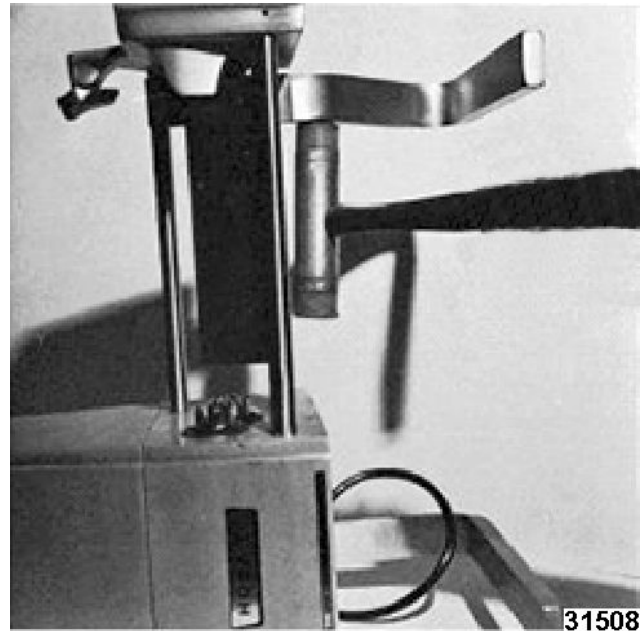

Fig. 8
10. Set the machine on end (Fig. 8) and by tapping the support assembly with a plastic mallet, remove the entire assembly.